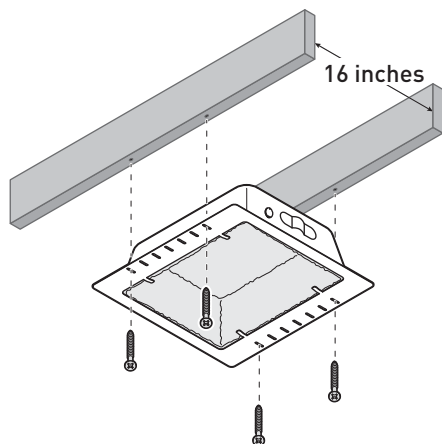

Fig. 2
STEP 3: Securely mount the backcan to the joists using a minimum of four #8 x 1-1/4" mechanical fasteners. One mechanical fastener must occupy each corner slot of the backcan. See Fig. 2.